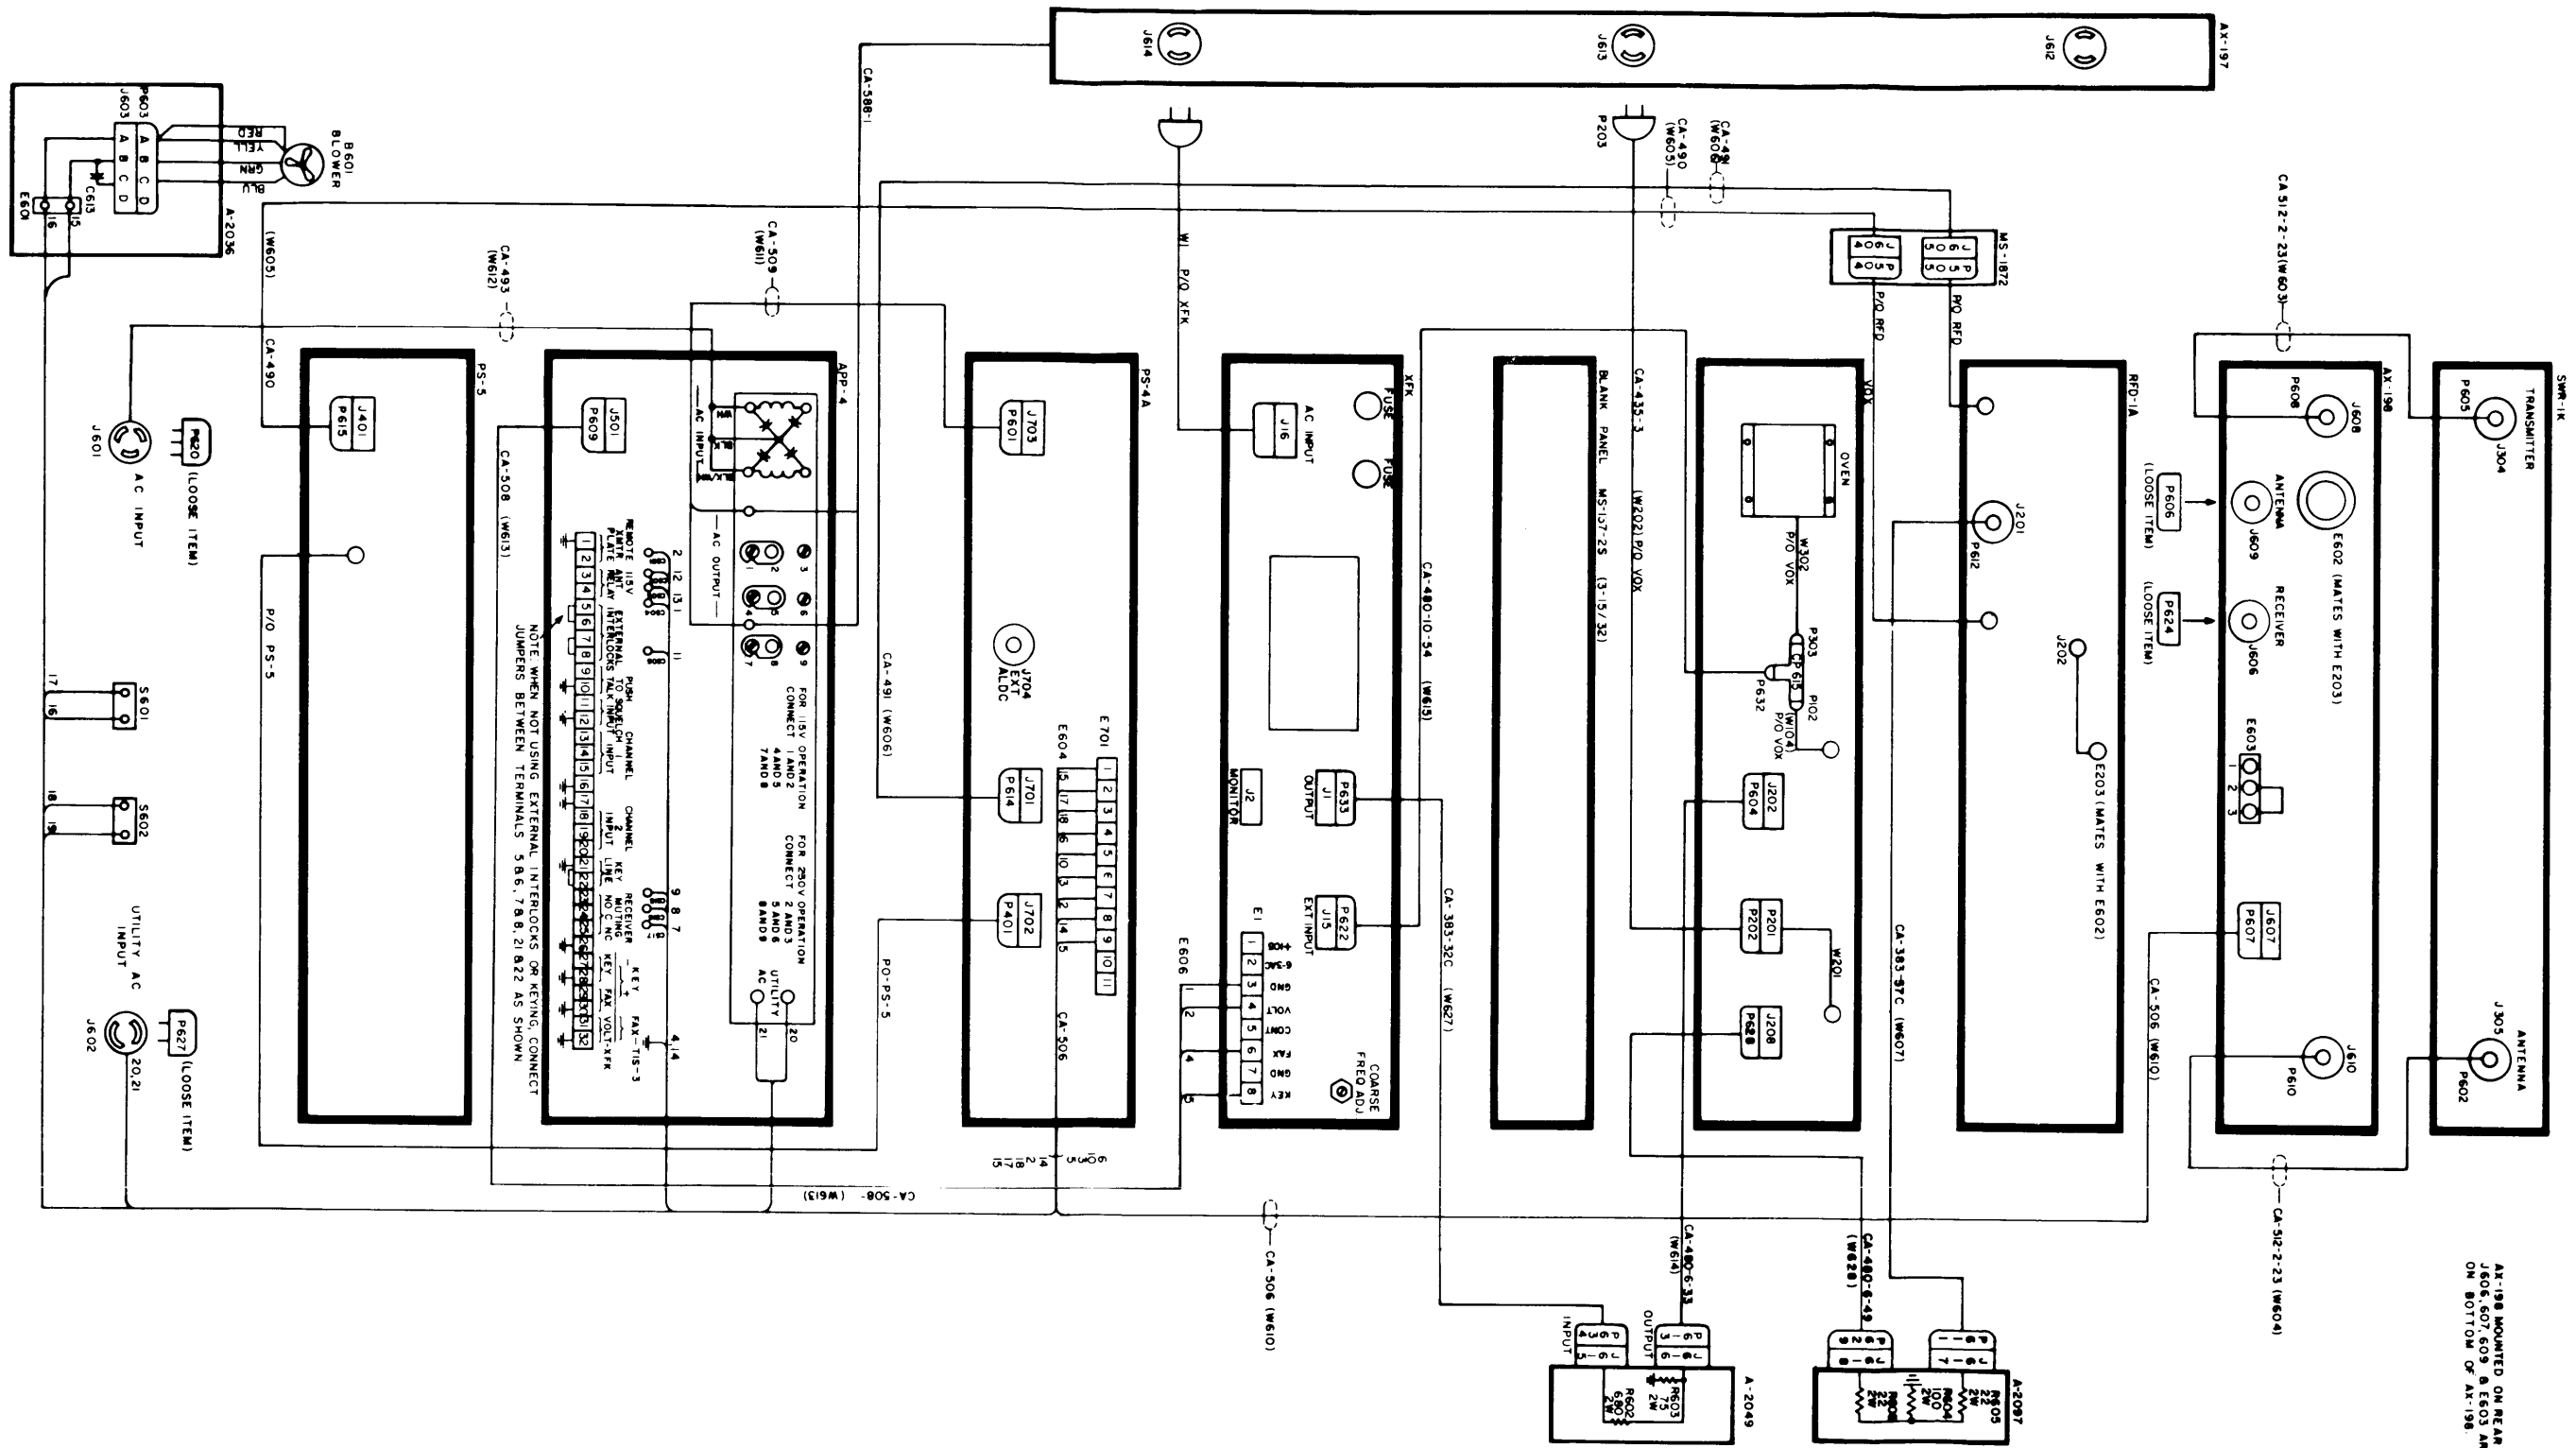

Figure 1-5. Wiring Diagram, SBT-1K(C)
Figure 1-5 is the wiring diagram of the SBT-1K(S) in Rack RAK-9.